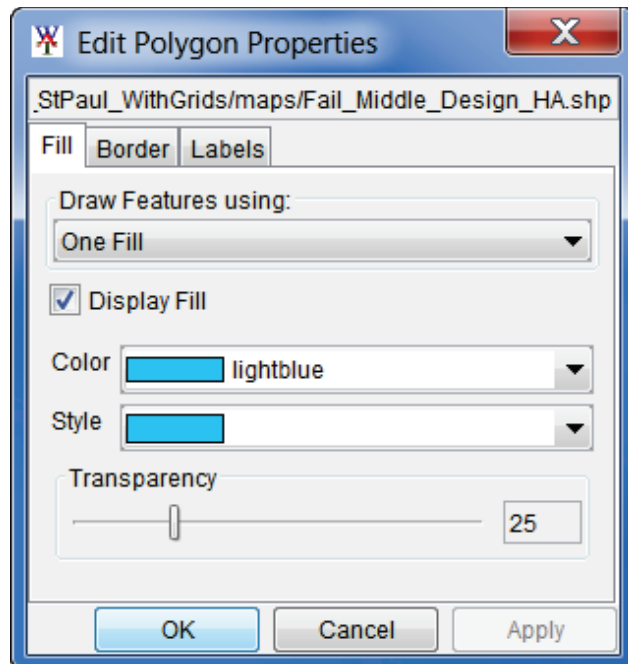

Figure 20.4 Edit Polygon Properties Editor
- For map layers, the user can change the display properties of the selected map layer. For example, in Figure 20.3, the user could right-click on the *Fail\_Middle\_Design\_HA.shp* map layer, from the shortcut menu, click **Properties**. The **Edit Polygon Properties Editor** will open (Figure 20.4). From the **Fill** tab, change the color to "lightblue", click **OK**. The impact areas on the active map window will now display in "lightblue".